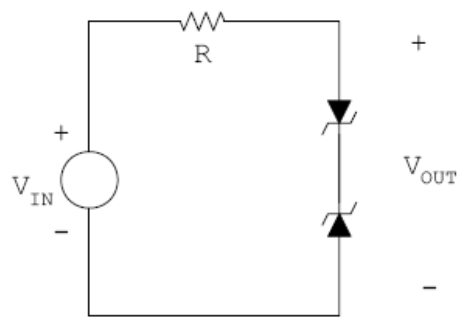

Fig. 2
**8** Modify the circuit of Fig. 2 so as to have symmetrical clipping, using a single Zener diode and a diode bridge.